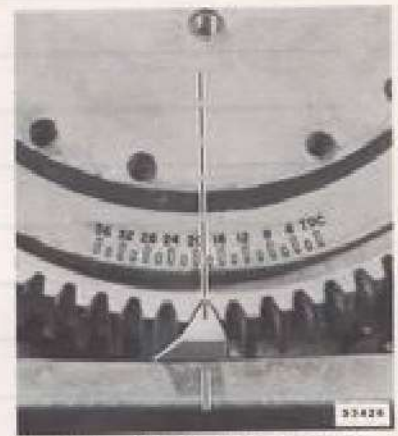

Figure 2-16. Full Throttle Timing
a. 70 hp - With the timing light connected to No. 1 cylinder, start the engine and set engine speed to 4600 to 5000 rpm (in gear). The 19° mark on the flywheel just aligns with the timing pointer. See Figure 2-16.